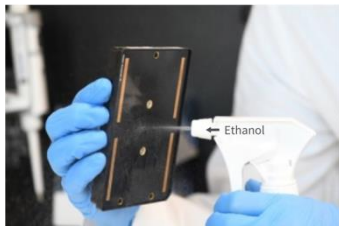

Figure 1. Spraying MaxTwo Multi-Well Plate with 70% Ethanol
- For sterilization:** Spray the MaxTwo Multi-Well Plate front and back thoroughly with 70% ethanol (see Figure 1).